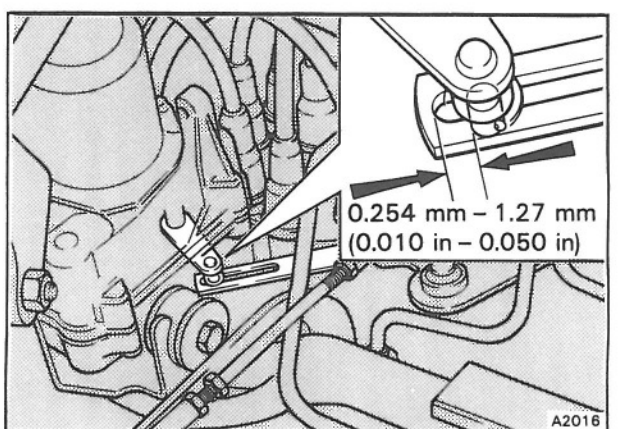

Fig. 24-3 Speed control actuator rod setting
2. Ensure that there is between 0.254 mm and 1.27 mm (0.010 in and 0.050 in) of free play at the speed control actuator linkage (see fig. 24-3). Adjust if necessary.